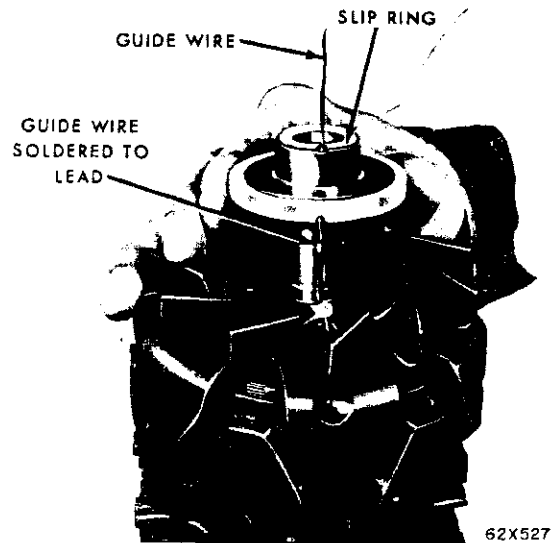
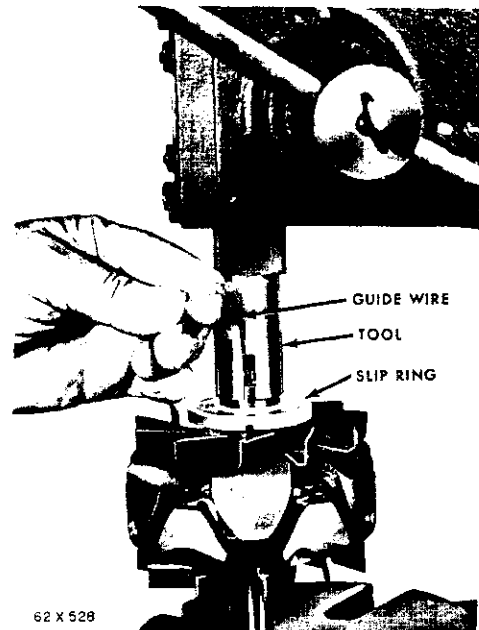

Fig. 69—Aligning the Slip Ring with the Field Wire Guide Wire
Fig. 70—Installing the Slip Ring
(8) Position the new slip ring carefully over the guide wire and the rotor shaft so the wire will lay in the slip ring groove (Fig. 69). The groove in the slip ring must be in line with the insulated brush field lead to provide room for the lead without damaging it.
(9) Place installing Tool C-3900 over the rotor shaft with the guide wire protruding from the slot in the tool.
(10) Position the rotor, slip ring and tool assembly in an arbor press (Fig. 70). Pull upon the guide wire being careful to guide the insulated field lead into the slip ring groove. While guiding the insulated field lead through the groove, press the slip ring on the shaft. When the slip ring is bottomed on the rotor fan the end of the field lead should be visible at the solder lug (Fig. 71).